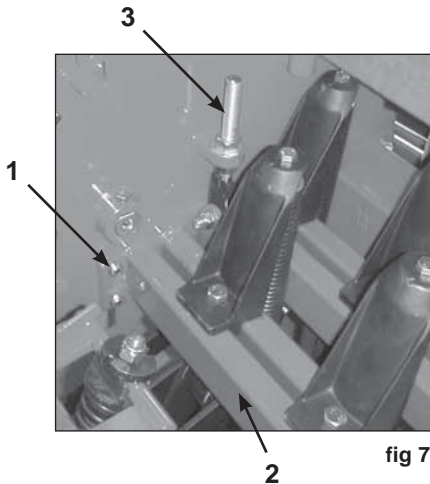

fig 7
To create the ideal seed bed the front coulter should cut approximately 20mm below the double discs. If more undercut is required or the ground is particularly hard and better penetration is required, the carrier beam can be lowered by releasing the four M16 bolts (1) at each end of the carrier beam (2) and adjusting the coulter adjustment rod assembly (3) See fig 7. Also refer to the maintenance section. The carrier beam is factory set in its upper most position.